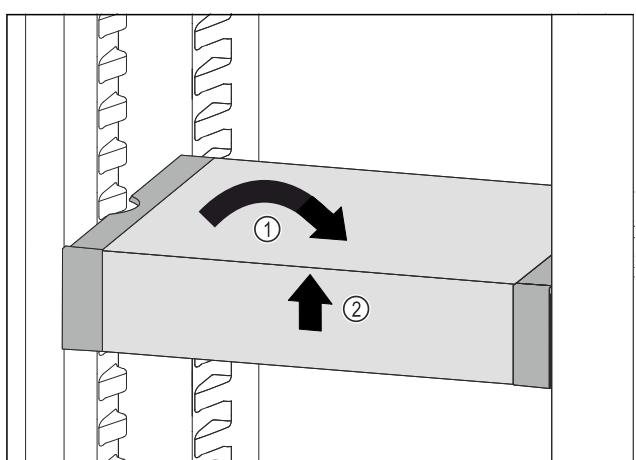

Fig. 105
- ▶ Set VarioSafe straight. Fig. 105 (1)
- ▶ Lift VarioSafe at the front. Fig. 105 (2)